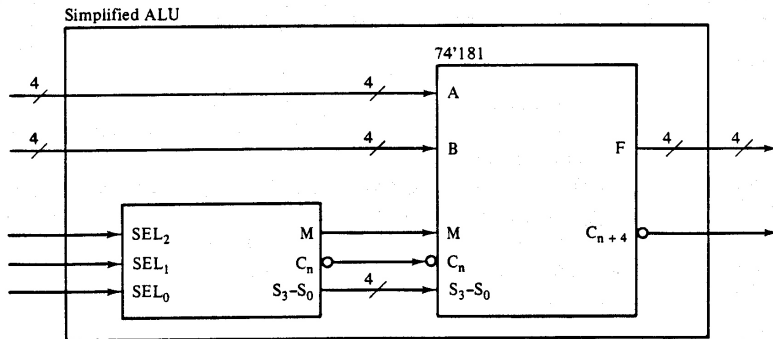

Figure 6.33 Simplified ALU for Problem 6.3.
- 6.3. Using a 74'181 and any additional logic that is required, design and realize the simplified ALU shown in block diagram form in Fig. 6.33. This ALU produces an output F that is the result of some operation on the inputs A and B. The particular operation depends on the control word SEL, as follows: